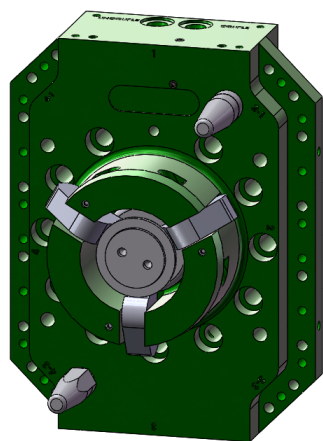
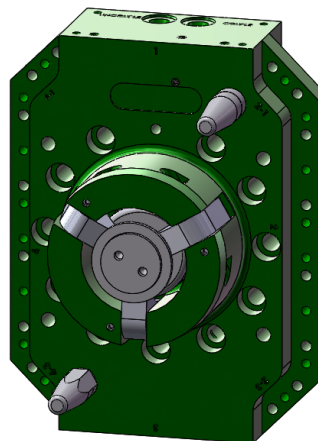

Figure 6.1-1. Robot Side Coupled (Cams Extended)
Figure 6.1-2. Robot Side Uncoupled (Cams Retracted)
2. Turn on supply air to the control valve and verify that the cams move to the extended position (Figure 6.1-1). If using a single solenoid, spring return, 4-way valve, this will verify that it is plumbed correctly.
3. Supply control power to the solenoid valve and supply the signal from the controller/PLC to move the valve to the uncoupled (solenoid energized) position. The cams should retract to the uncoupled position (Figure 6.1-2) and the input from the uncoupled sensor should be received by the robot controller/PLC.
¹ To test Piston Spring functionality, retract the cams (Figure 6.1-2) using air pressure, then completely vent off all air and ensure that the cams return to the extended position (Figure 6.1-1).